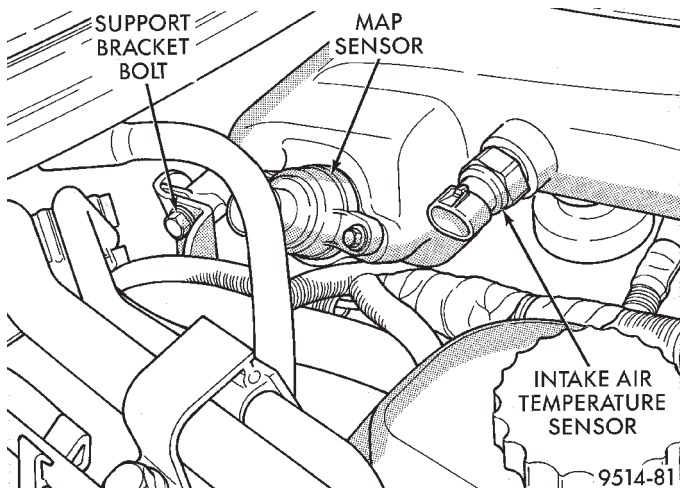

Fig. 22 Intake Manifold Sensors and Left Manifold Support Bolt
(3) Disconnect fuel supply tube from rail. Refer to Quick-Connect Fittings in the Fuel Delivery section of this group.
(4) Unplug connectors from MAP and intake air temperature sensors (Fig. 22).
(5) Remove plenum support bracket bolt located rearward of MAP sensor (Fig. 22).